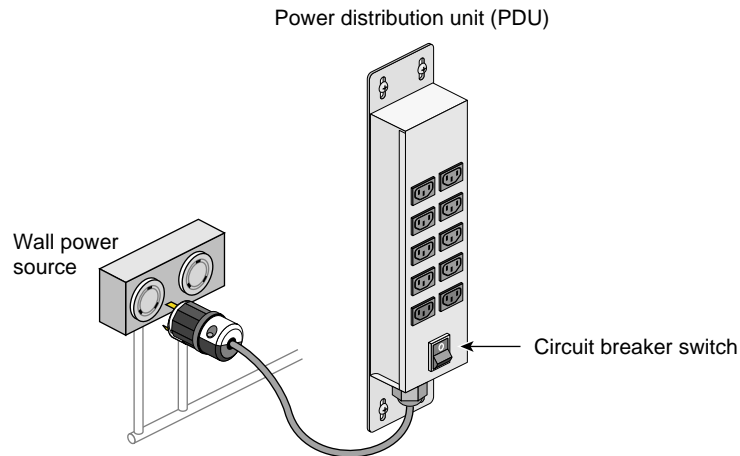
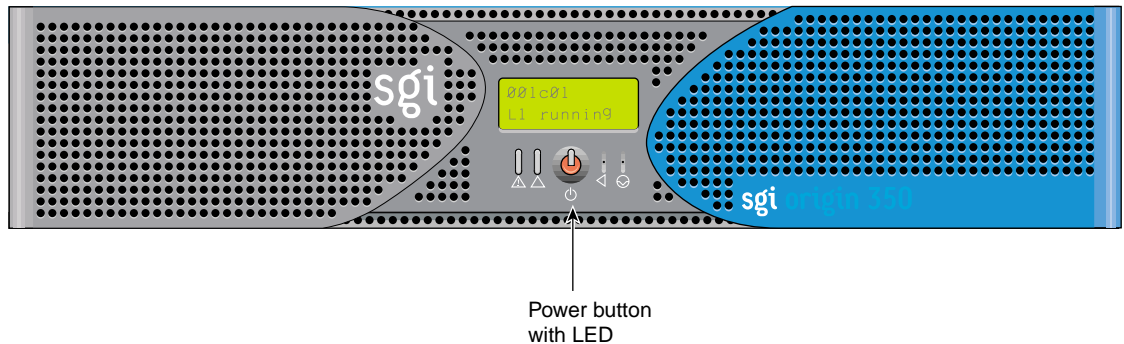

Figure 1-31 PDU Circuit Breaker
Figure 1-32 Location of the Power Button
3. Turn on the circuit breaker switch of the PDU as shown in Figure 1-31.
2. Turn on the circuit breaker switch of the PDU as shown in Figure 1-31 on page 55.
- a. For the PCI expansion module or a NUMAlink module, press the power switch on the module's rear panel to the ON (I) position to start the module's L1 controller. Then, push in the On/Off switch with LED in the front of the module to power on the rest of the module's internal components.
- b. For the TP900 storage module, press the power button on its rear panel to ON (I).
- c. For the MPX module, the base compute module, and the system expansion compute module, press the power button with the LED on the front panel of each module (see Figure 1-32).
- To power off the TP900 storage module, press the power button on its rear panel to the OFF (O) position.
- To power off the base compute module, the system expansion compute module, and the MPX module, press the power button with the LED on the front panel of each module (see Figure 1-32 on page 57).